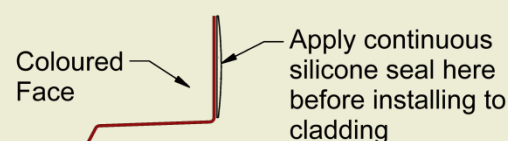

Figure 10.2 Sill Flashing
- Apply continuous silicone seal to rear leg of Sill flashing and apply to opening. See **Figure 10.2**.